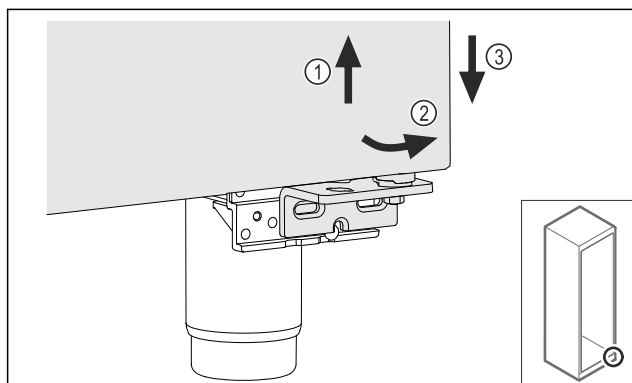

Fig. 27
- ▶ Lift the door slightly Fig. 27 (1), tilt it forwards at the bottom Fig. 27 (2) and lower it Fig. 27 (3).